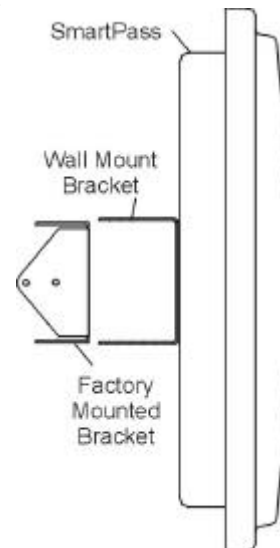

Figure 8-7 Factory Mount Bracket Attached to Wall Mount Bracket
- Using the four machine screws and washers, attach the factory mount bracket to the wall mount bracket, lining up the four outside screw holes (Figure 8-7).